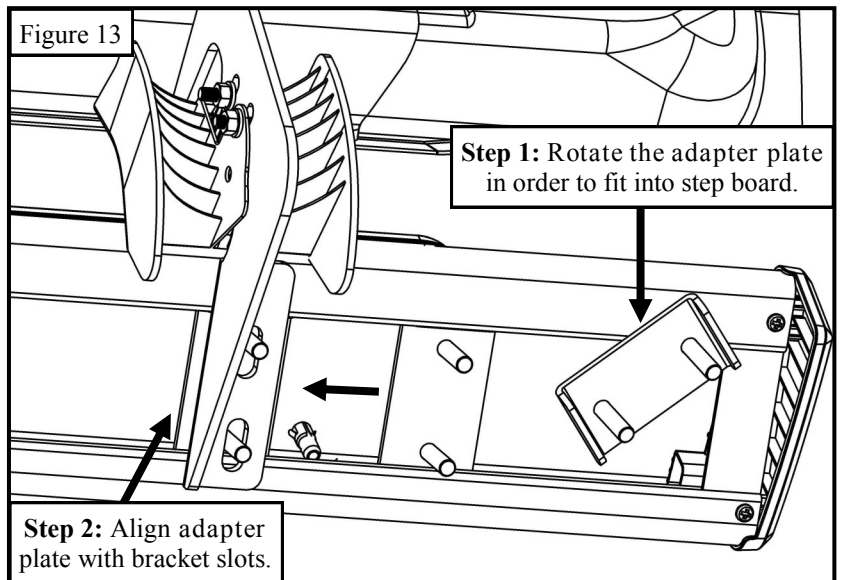

Figure 13
14. **For Part Numbers 28-51040 and 28-51050:** Locate (1) driver side step board (Item 1) and (3) adapter plates (Item 6). Insert the adapter plates onto the step board and align with the previously installed mount brackets. Repeat for passenger side. See **Figure 13**.